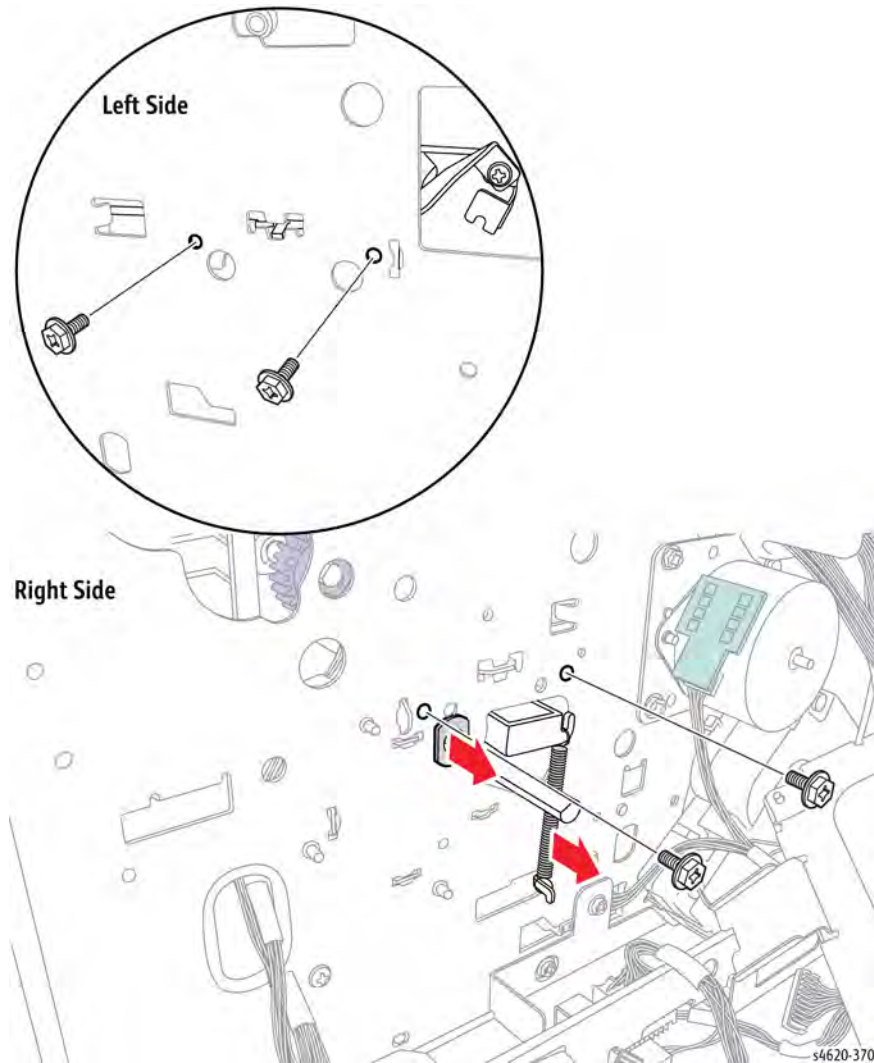

Figure 8 Remove the Tray 2 baseplate screws, bearing and spring
- 24. Remove 4 metal screws that secure the Tray 2 baseplate, Figure 8.
- 25. Remove the bearing from the Pick-up Assembly shaft, Figure 8.
- 27. Remove the spring from the Pick-up Assembly, Figure 8.